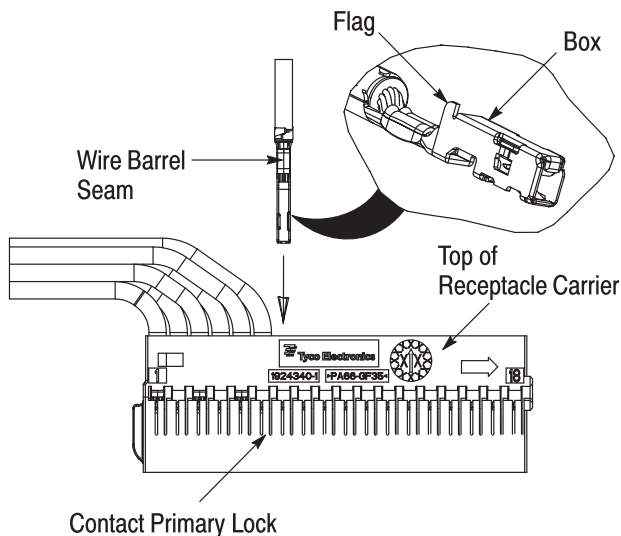

Figure 2
1. Grasp the wire of the contact approximately 15 mm [.6 in.] behind the insulation barrel, and orientate the contact so that the flag faces the top of the receptacle carrier. The seam of the wire barrel should also face the top of the receptacle carrier. See Figure 2.
2. Push the contact straight into the contact cavity until the contact primary lock of the receptacle carrier snaps securely behind the box of the contact. Refer to Figure 2. The contact primary lock should return to its original non-deflected position.